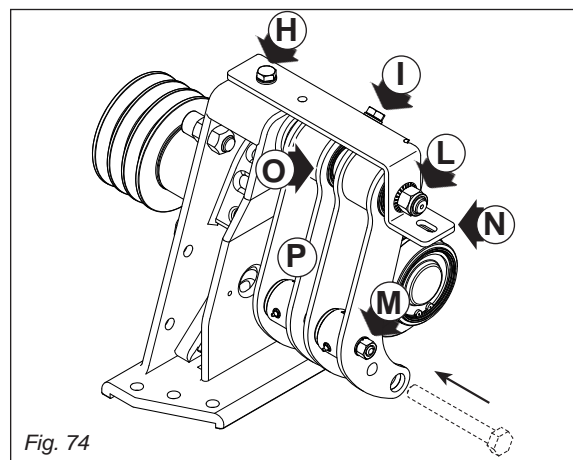

Fig. 74
- Remove the expansion pins (M, Fig. 74).
- Loosen and remove screws L, H, I (Fig. 74).
- Remove the support (N, Fig. 74).
- Remove the yokes (P, Fig. 74).
- 1) Insert the new yokes with the intermediate spacer (O, Fig. 74).
- 4) Align the yokes properly using a pin or screw (M20) (Fig. 74).